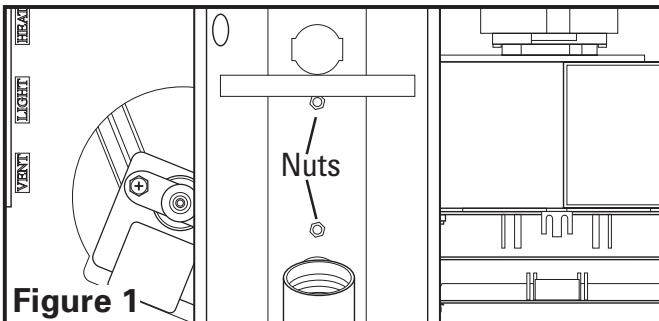

Figure 1
2. Remove the two hex nuts holding the light reflector in place. Keep the reflector and nuts in the carton until needed so they do not get damaged or lost. (**Figure 1**).